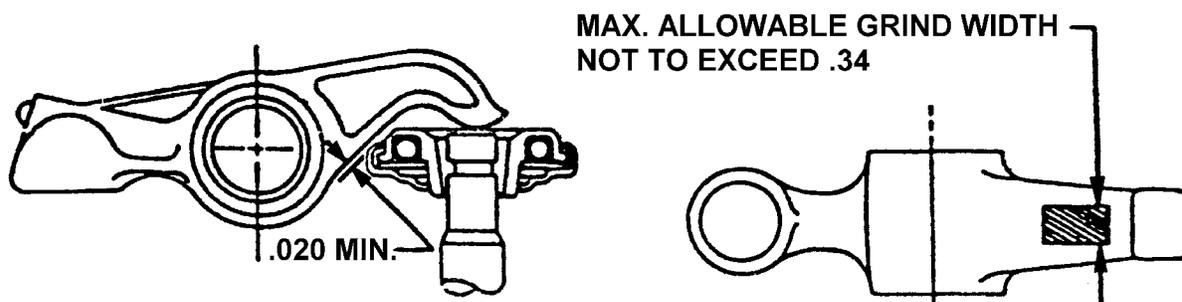

FIGURE 19-16. ROCKER ARM TO ROTOCOIL CLEARANCE
9. Measure rocker arm to rotocoil clearance. See Figure 19-16, "Rocker Arm To Rotocoil Clearance. See Section 16-5 for rework procedure.